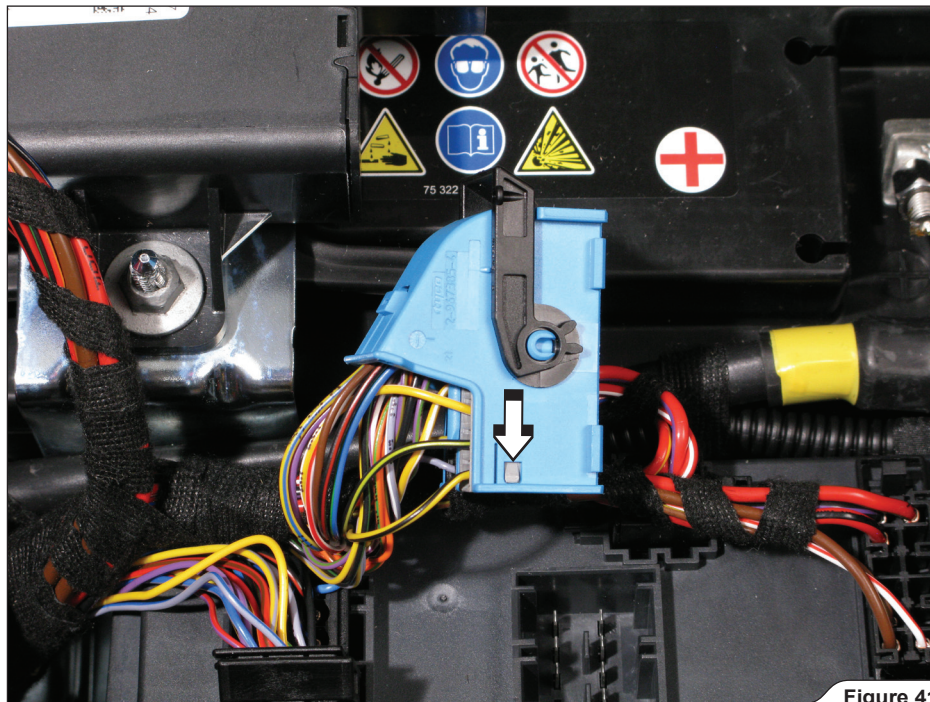

Figure 41
5. Dismantle the connector (**Figure 41**).